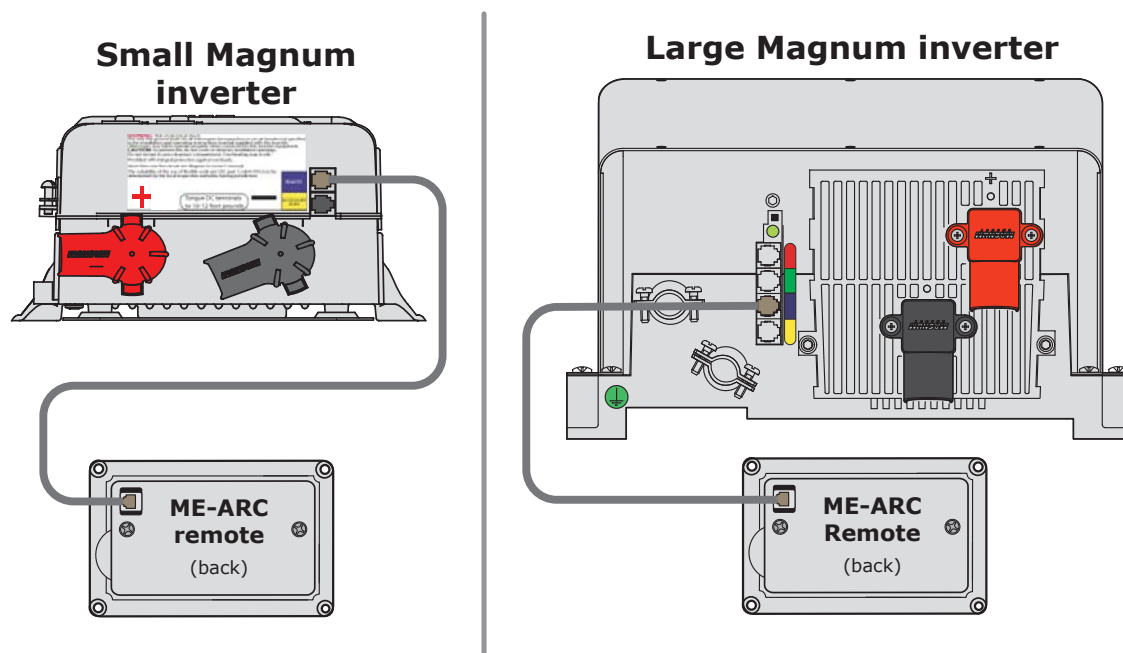

Figure 2-2, Remote Control Connections
One end of the remote cable plugs into the back side of the ME-ARC, and the other plugs into the REMOTE (blue) port on the Magnum inverter/charger (see Figure 2-2).
3. Route one end of the cable through the wall cutout to the inverter/charger, and then plug it into the RJ11 REMOTE port (blue label) on the inverter/charger—inverter has DC power, but is OFF. See Figure 2-2.
5. Route the other end of the cable to the inverter/charger, and then plug it into the inverter's RJ11 REMOTE port (blue label)—inverter has DC power, but is OFF. See Figure 2-2.